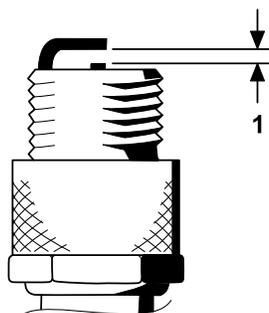

Figure 41
- Set the air gap between the center and side of the electrodes at 0.76 mm (0.030 inches) as shown in Figure 41.